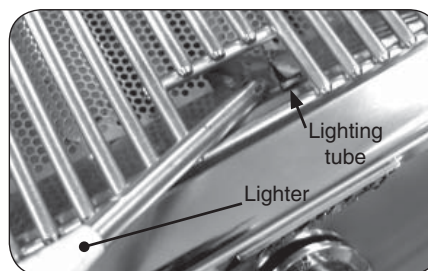

Fig. 17-2 - Manual lighting
2. Insert either a burning long-barrel butane lighter or a burning long-stem match through the cooking grid opening to the top of the lighting tube. (Fig. 17-2). For backburners, hold the flame against the surface of the backburner. For sideburners, hold the flame against the burner.
4. If the burner does not light, **immediately depress the knob and turn the valve to OFF**. **WAIT FIVE (5) MINUTES** before repeating steps 2 through 4 of the MANUAL LIGHTING instructions.